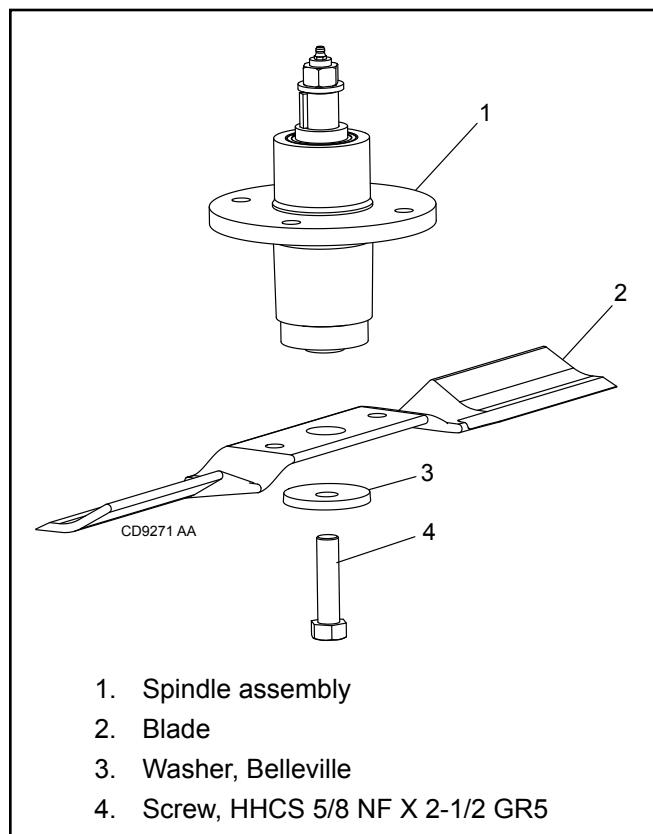

Figure 17. Blade Installation
- When installing blade, the lift of the blade must be toward the blade spindle housing as shown in Figure 17, page 25.